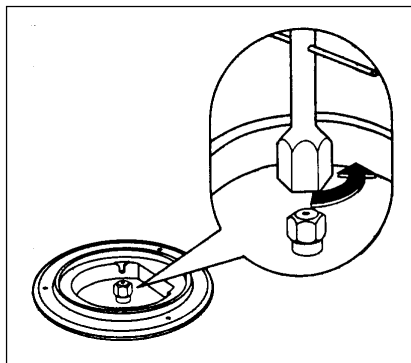

Fig. 1
- With a socket spanner 7 unscrew and remove the injectors (Fig. 1), and replace them with the ones required for the type of gas in use (see table 2).